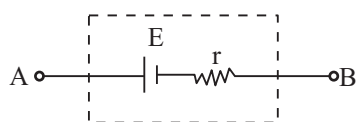

Fig. 23.1
- (ii) Schematically, internal resistance r of a cell is shown as part of a cell of *emf* \mathcal{E} whose terminals A and B only are available to us for making connections (Fig 23.1).